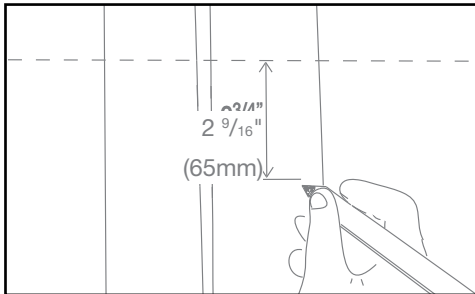

Fig. 15
- Place a mark 2-9/16" below the Hand Rail layout line to establish placement of the Inside Corner Bracket - Fig. 15.